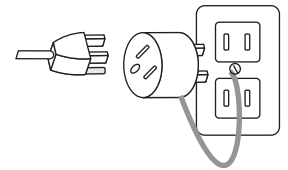

Figure 2
Before using this floor machine, make sure a properly grounded, 3-hole electrical outlet is available. If not, as in some older facilities, use an adapter for connecting a 3-prong plug to a 2-prong receptacle (Figure 2) to ground to the outlet chassis.
**Never assume that an adaptor connection (as in Figure 2) is properly grounded.** Check the outlet with a **ground fault interrupter device** which quickly indicates if a ground is connected. Correct a faulty grounding before proceeding.